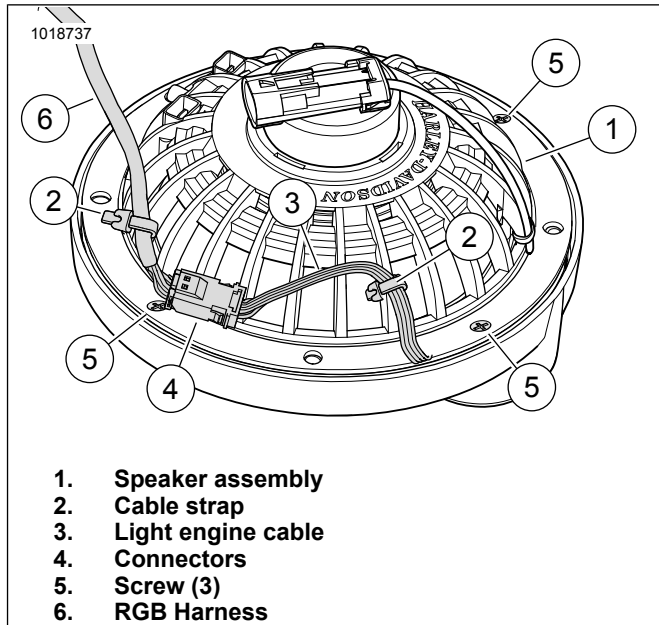

Figure 15. Speaker Back, Cable and Cable Strap
9. Route the cable (4) along tweeter bridge leg. Using the tape in kit, cut to length and secure cable to back of tweeter bridge.
10. See Figure 15. Put tweeter assembly and speaker (1) together. Align holes for screws (5).
- a. Join connectors (4) from the light engine (3) to RGB harness (6).
- b. Route light engine cable (3) along the back of the speaker (1) as shown. To stabilize the connectors (4), secure light engine cable (3) and RGB harness (6) with cable straps (2) as shown.